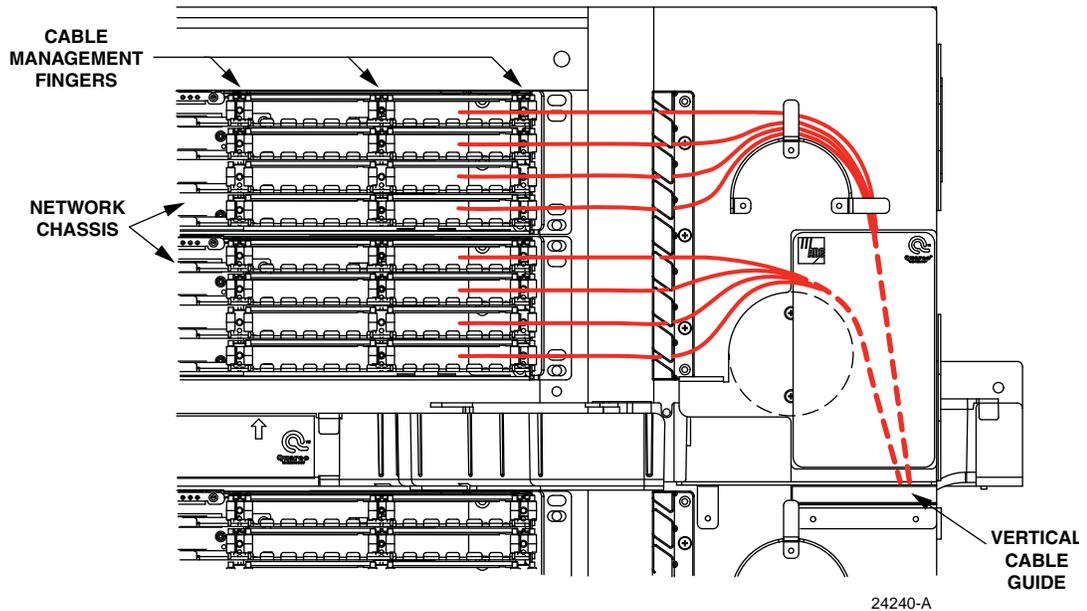

Figure 26. Cable Routing Entering Network Chassis
8. At the front of the tower connect remaining end of cable into desired adapter on blade. See Figure 26.